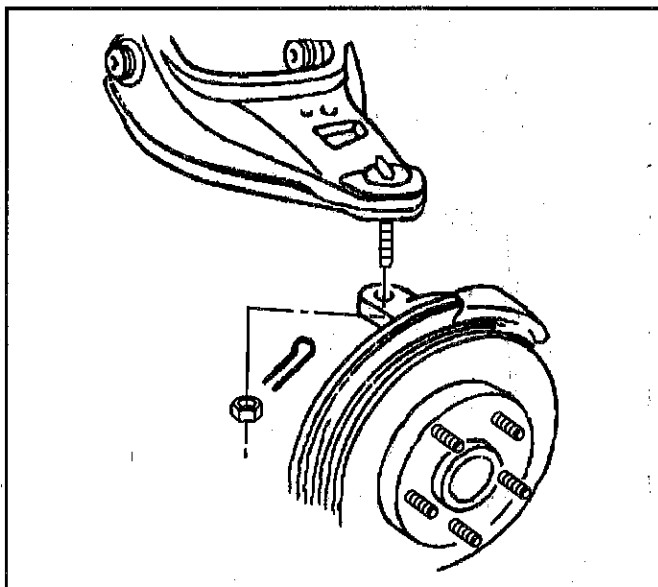

Figure 32—Separating the Ball Joint From the Knuckle
7. Disconnect the cotter pin from the upper control arm ball joint stud (Figure 32).
- 5. Upper ball joint nut (Figure 32).